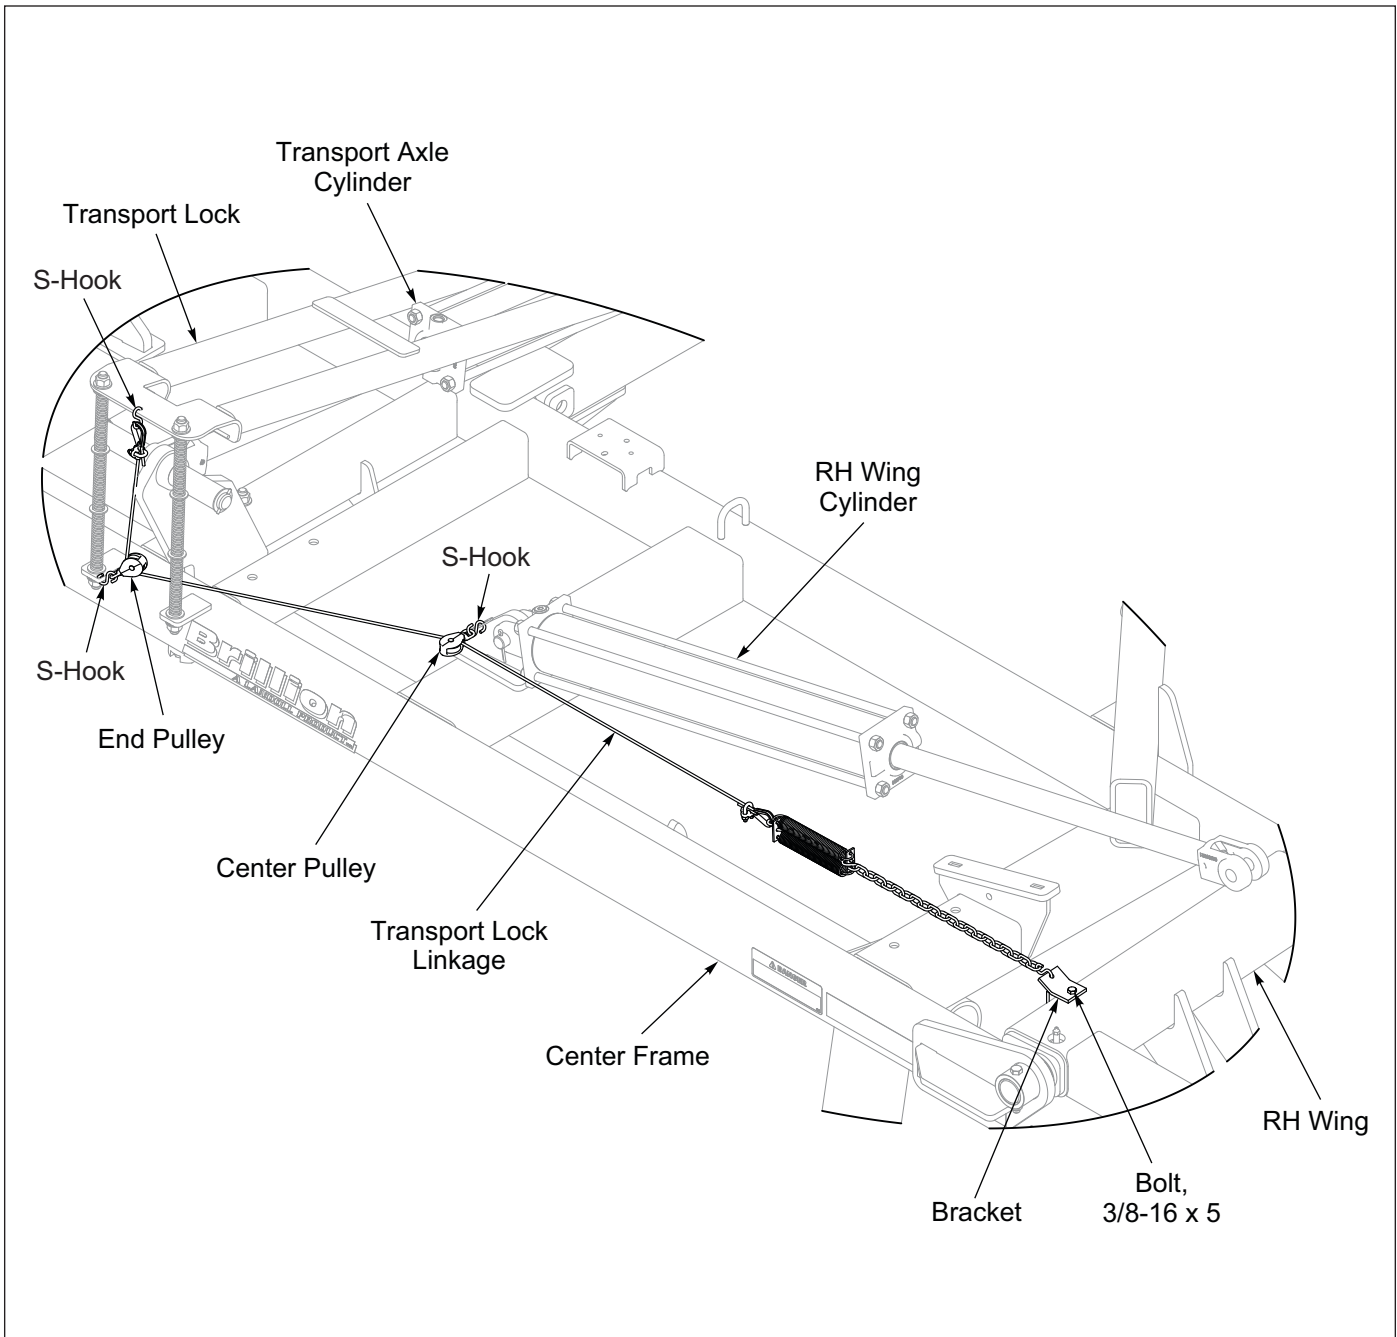

Figure 2-15: Transport Lock Linkage
1. Attach the linkage Bracket to the right hand wing frame with 3/8-16 x 5 Bolt, Lock Washer and Nut. See **Figure 2-15**.
Ensure Linkage is not bent or kinked. See Figure 2-15.